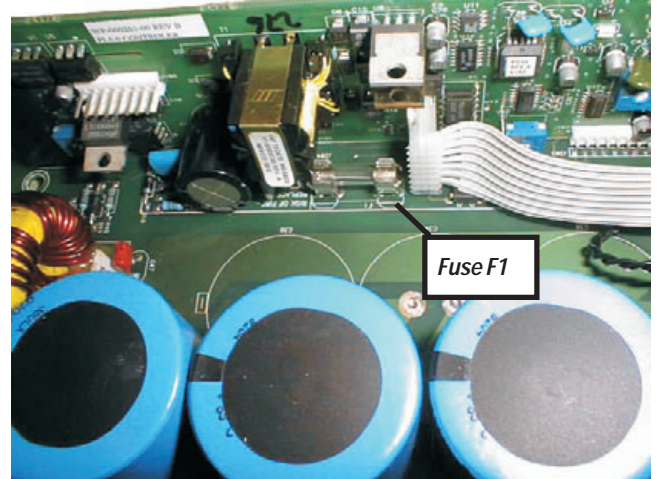

Figure 2.14. Fuse F1 may need replacing.
10. Check the fuse (see Figure 2.14). If it is blown, replace it with a slow-blow 1A 250V 5×20 mm fuse (QSC part # **MS-000113-00**).
There are four trim pots, VR1–VR4 (see Figure 2.14), on the controller card that must be adjusted correctly before reinstalling the power supply in the amplifier:
From left to right (Figure 2.14):